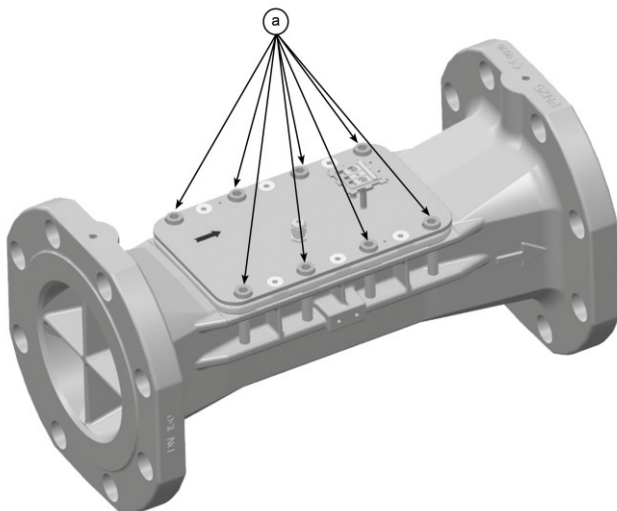
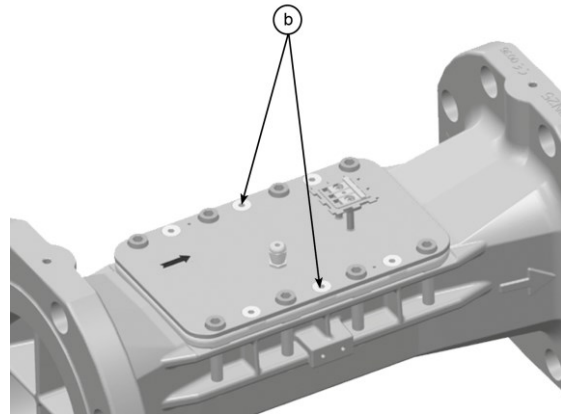

Fig. 7: Screws "a"
Fig. 8: Screws "b"
- Loosen the 2 screws "b" (see figure 7).
- Screw in the 8 screws "a" (see figure 7) with 35 Nm.
Warning: All screws "a" (see figure 7) and "b" (see figure 8) must be screwed.